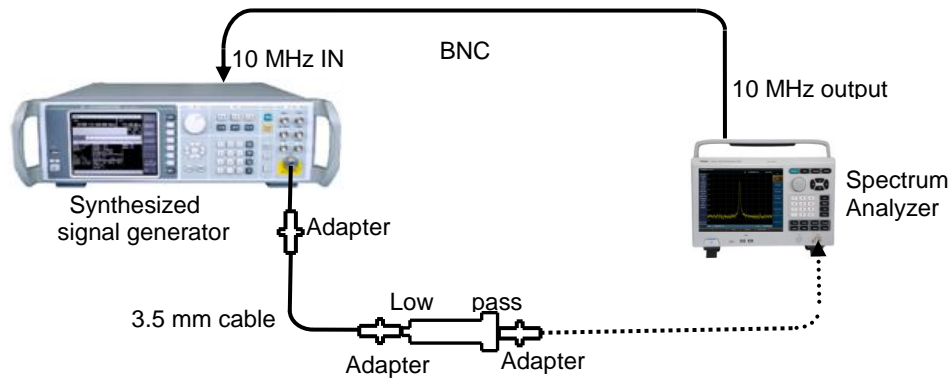

Fig 11-9 Second harmonic distortion testing setup
- 1) Connect the test instrument as shown in Fig 11-9. The spectrum analyzer provides a 10 MHz reference frequency for the synthesized signal generator and the 1 GHz low pass filter is used.
- 7) Connect the test instrument as shown in Fig 11-9 and use a 6.8 GHz low pass filter.
- 13) Connect the test instrument as shown in Fig 11-9 and use a 18 GHz low pass filter.